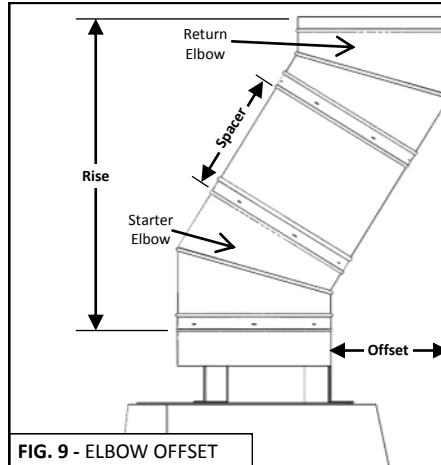

FIG. 9 - ELBOW OFFSET
**13) SPACER CHIMNEY SECTION** – Typically, for models KIVA18 and KIVA24, a 12” length of chimney pipe is used between the Starter Elbow and Return Elbow. For KIVA30 models an 18” length of chimney pipe is used in most installations. Refer to Offset and Rise chart on Page 11 (FIG. 9) for other combinations of chimney.